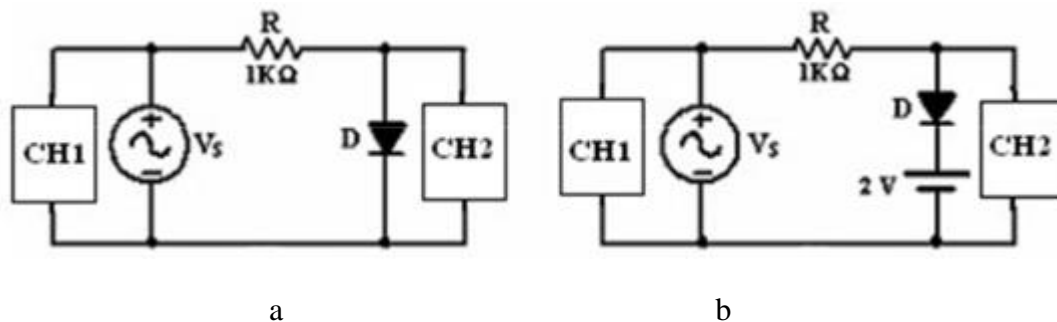

Figure 3.7: Positive clipper circuits
- 1- Construct the circuit shown in Figure 3.7 using 1N4006 Si diode.
**Positive clipper of figure 3.7 a**
**Positive clipper of figure 3.7 b**